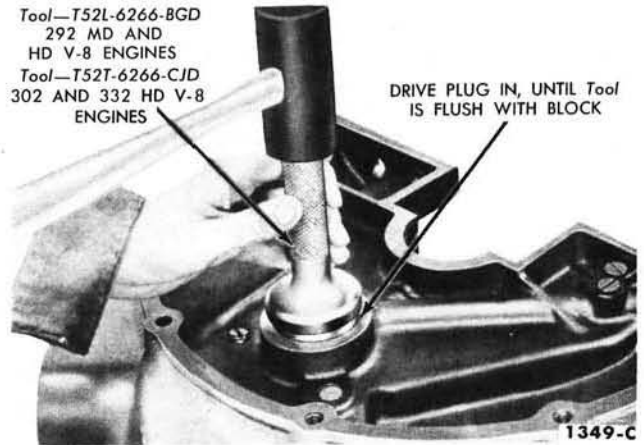

FIG. 54—Camshaft Rear Bearing Bore Plug Installation—Typical
4. Clean the camshaft rear bearing bore plug recess thoroughly. Coat the flange of a new plug with water resistant sealer and install it with the flange facing in (Fig. 54). Drive the plug in until the flange is flush or slightly below the casting surface.